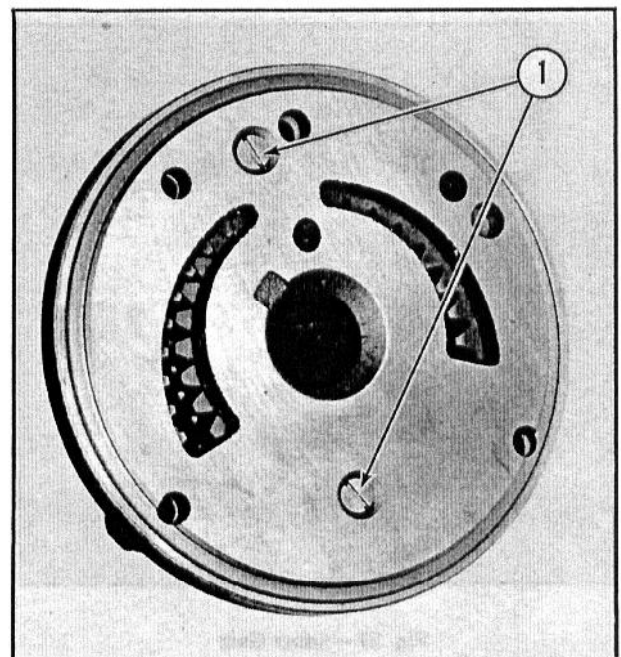

Fig. 25 — Rear View of Pump
3. Remove the 2 screws, located on the back of the pump, that hold the face plate and pump body together. See Fig. 25.